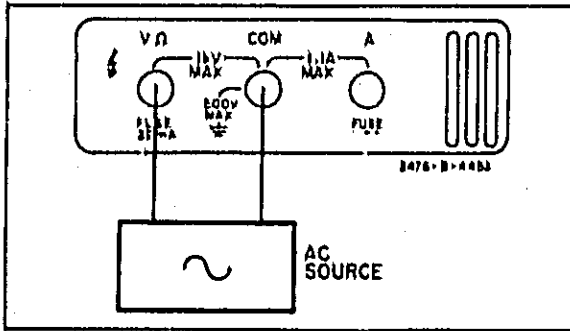

Figure 3-3. AC Voltage Measurement.
- DC/AC (--- ~), ~ (IN)
- VOLTS (V) (IN)
- AMPS (A) AND kΩ (OUT)
3-13. Connect test leads from the Multimeter V Ω (HI) and COM (LOW) connectors to the voltage under test as shown in Figure 3-3.